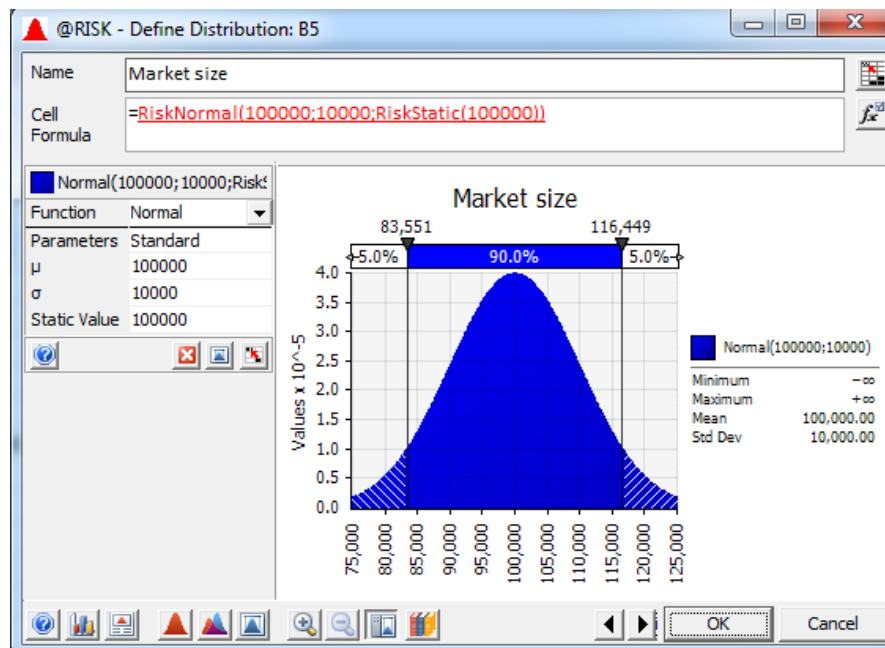

Figure 2: Defining market size (cell B5) as a normal distribution with mean 100,000 and standard deviation 10,000
- 3.1.1. Right-click when the cursor is over cell B5 select @RISK->Define Distributions. A window pops up, titled @RISK - Define Distribution: B5, showing a set of distributions. Select Normal distribution. @RISK automatically enters the value in cell B5 (100000) as μ (mean) and as Static Value, and 10000 as σ (standard deviation) (see Figure 2). Do not